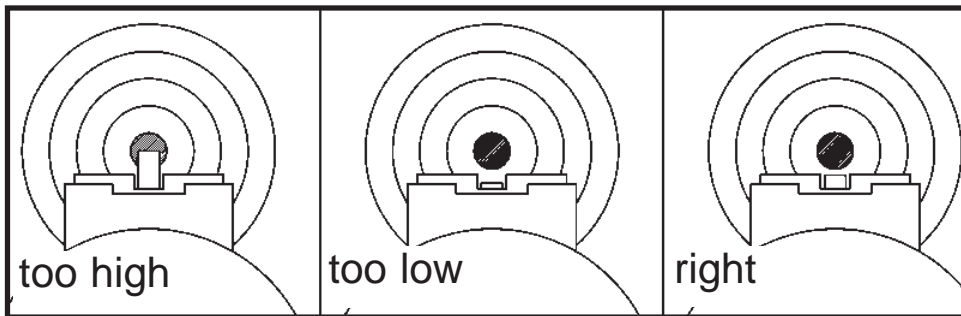

Fig. 6
- The air pistol is correctly aimed when the front sight blade is positioned exactly in the notch of the rear sight. The top of the front sight blade should be even with the top of the notch in the rear sight. The bull's-eye should appear to rest on the top of the front sight (Fig. 6).